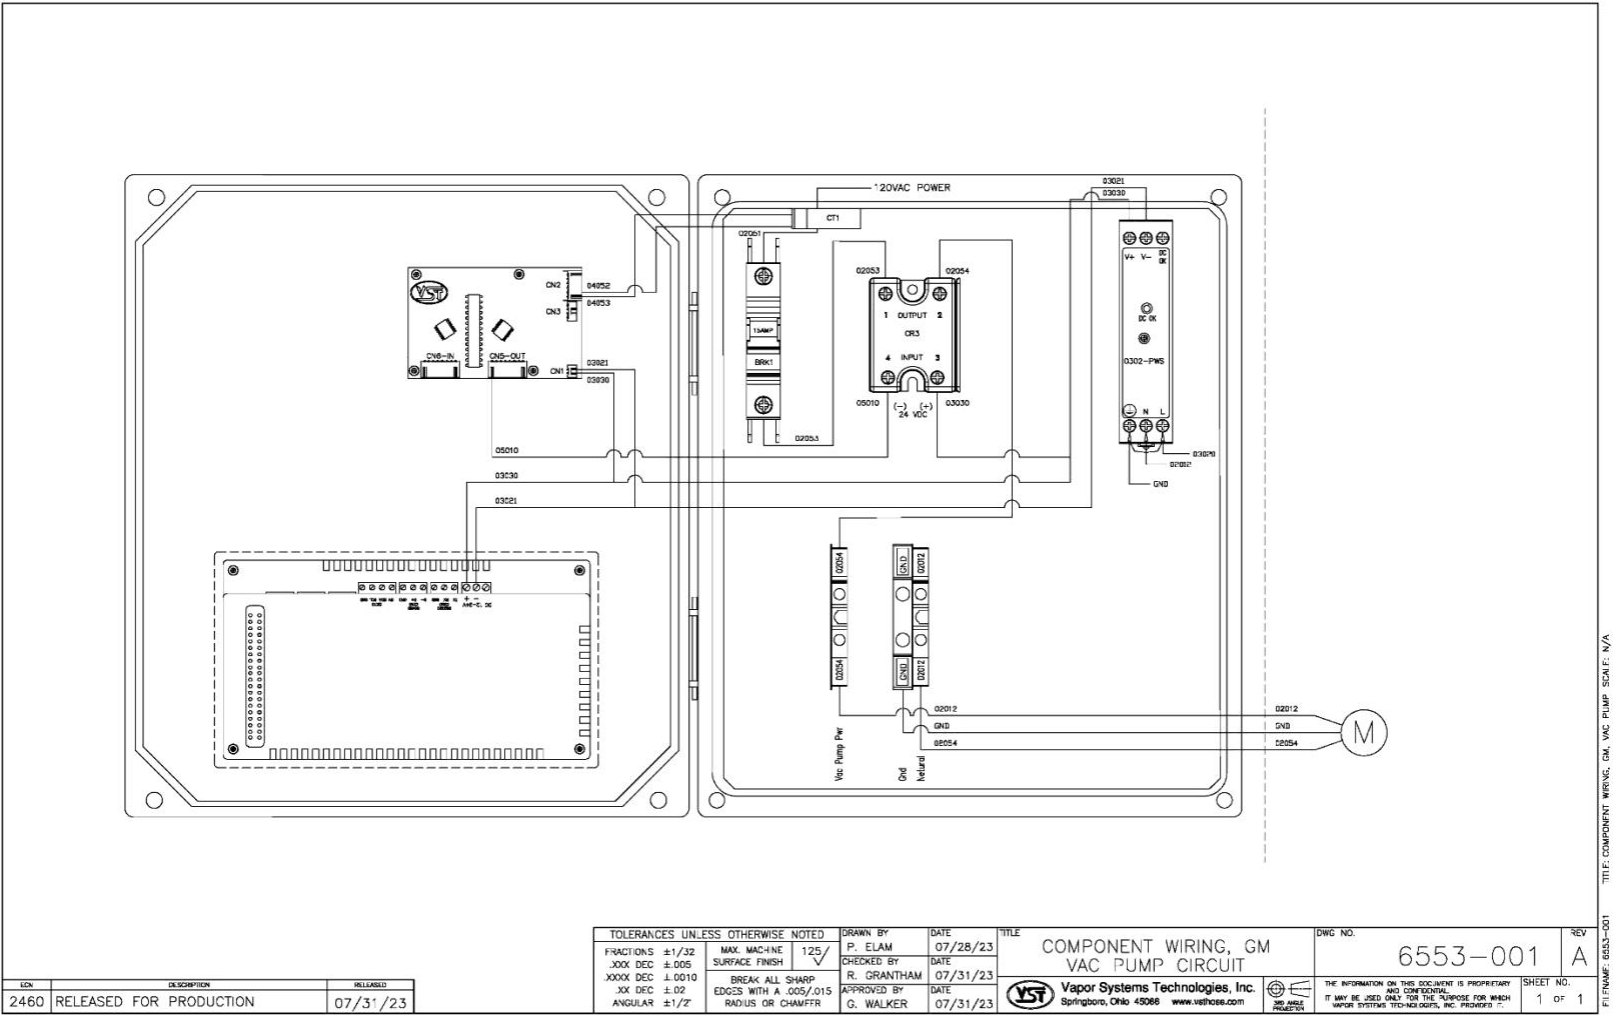

Figure 8-20: Vacuum Pump Circuit
4.	<p>Check the Vacuum Pump wiring circuit inside the VST Control Panel. See Figure 8-20.</p> <ul style="list-style-type: none">Physically check the Vacuum Pump wiring connections at the Vacuum Pump junction box and at the VST Control Panel to make sure the connections are tight and wired correctly.